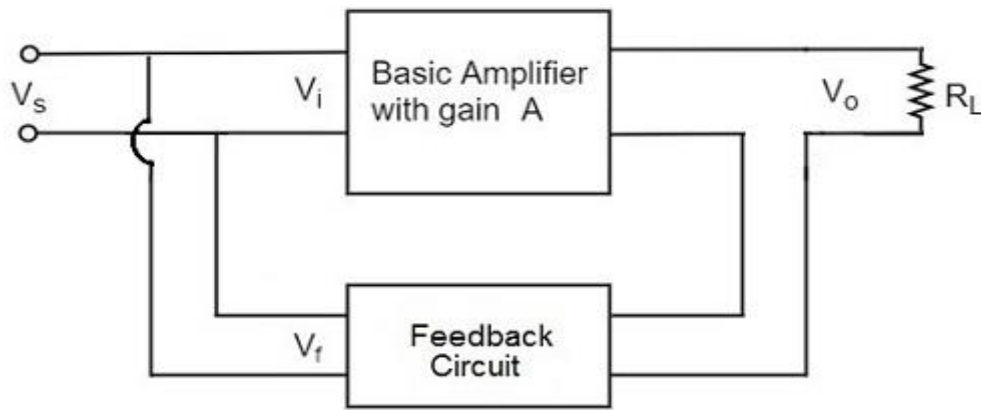

Fig1.4.5. current shunt feedback circuit
- The below figure 1.4.5 shows the block diagram of current shunt feedback, by which it is evident that the feedback circuit is placed in series with the output but in parallel with the input.